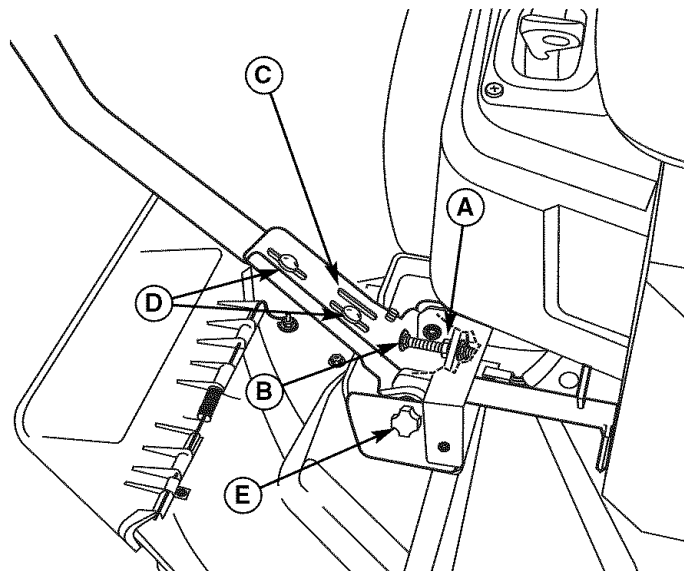
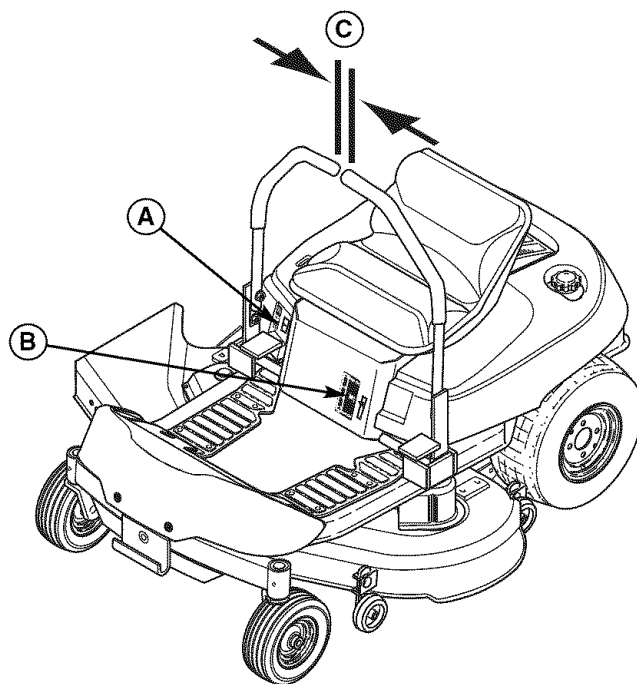

Figure 32 Control Lever Adjustment
Figure 33. Cutting Height Adjustment
To Adjust Control Lever Height: Pull the levers in across the operator's lap to their DRIVE positions. Loosen the mount bolts (D, Figure 32) and raise or lower the levers to the desired position. Tighten the mounting bolts.(D).
To Adjust Control Lever End Gap: The control lever end gap (C, Figure 33) should be adjusted so that the levers do not contact each other when placed in DRIVE positions. Loosen the jam nut (A, Figure 32) and adjust the length of the carriage bolt (B) so that the levers do not contact each other. Repeat on the opposite side. Tighten the jam nut (A) to lock the carriage bolt in position.
To Adjust Operator Clearance: The space between the operator and the control levers can be increase by removing the lower mounting bolt (D, Figure 32), pivoting the lever forward, and reinstalling the capscrew through the control lever and forward slot (C). Repeat with the other ground speed lever.
If the rider veers to the right or left when the ground speed control levers are in the maximum forward position, the top speed of the right lever can be balanced by turning the adjustment knob (E, Figure 32). Loosen the jam nut and turn the knob COUNTERCLOCKWISE to increase speed or CLOCKWISE to decrease speed. Tighten the jam nut when complete.
To increase the mower cutting height (raise the mower deck), press the top of the mower cutting height switch (A, Figure 33). To decrease mower cutting height (lower the mower deck), press the bottom of the switch. Mower cutting height range is 3-3/4" to 1-1/2". The cutting height gauge indicates the position of the mower deck.. The cutting height gauge (B) is located on the front of the rider, just behind the driver's left leg.